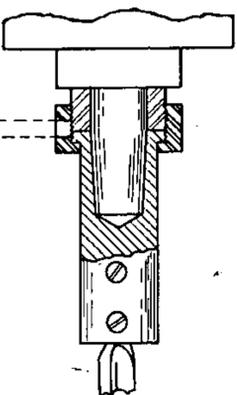
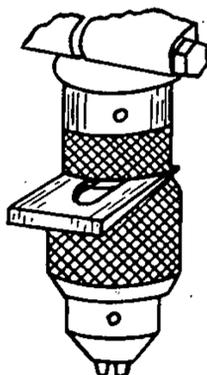

Fig. 2
Fig. 4
(1) To move the drill press head or table to different position on the column, loosen the clamp by turning the lever which is located next to the column.
(2) The Quill is locked in position by turning the small lever located at the lower front part of the head.
(3) The two knurled nuts on the spindle stop gauge can be set at any desired position and locked. In this way a definite amount of spindle travel can be obtained and any number of holes can be drilled to a desired depth.
(4) Spindle Adjustment—If longitudinal play develops in the spindle it may be eliminated as follows: (1) Remove spindle guard and the two lock nuts on the feed stop bracket, (2) Remove spring housing cap by turning it $\frac{1}{4}$ " counterclockwise and pull out, (3) Remove feed lever and pinion shaft, (4) Pull spindle and quill downward and remove from head, (5) Loosen set screw in collar directly above quill and while forcing the spindle up against the bottom of the quill, tighten the collar up against the inner race of the quill bearing. Do not make this adjustment too tight, (6) Put spindle back into the drill head and reassemble.
(5) To Remove Chuck from Spindle—See Figure 4. Use the wedge provided for this purpose.
In using the various types of mortising bits, router bits, etc., the operator **MUST** use a collet chuck rather than the Jacobs' chuck. On those drills, equipped with a tapered spindle, it is necessary to remove the Jacobs chuck and the threaded collar immediately above it. To remove Jacobs chuck from spindle, place the steel wedge between the chuck and the knurled collar and strike the wedge a sharp blow with a hammer. (See Fig. 4). The chuck should be caught with the left hand in performing this operation. The collet chuck is placed on the taper, and the threaded collar is then replaced. There is a small flange on the inner side of this collar which will hold the collet chuck securely in position on the taper. (See Fig. 2).